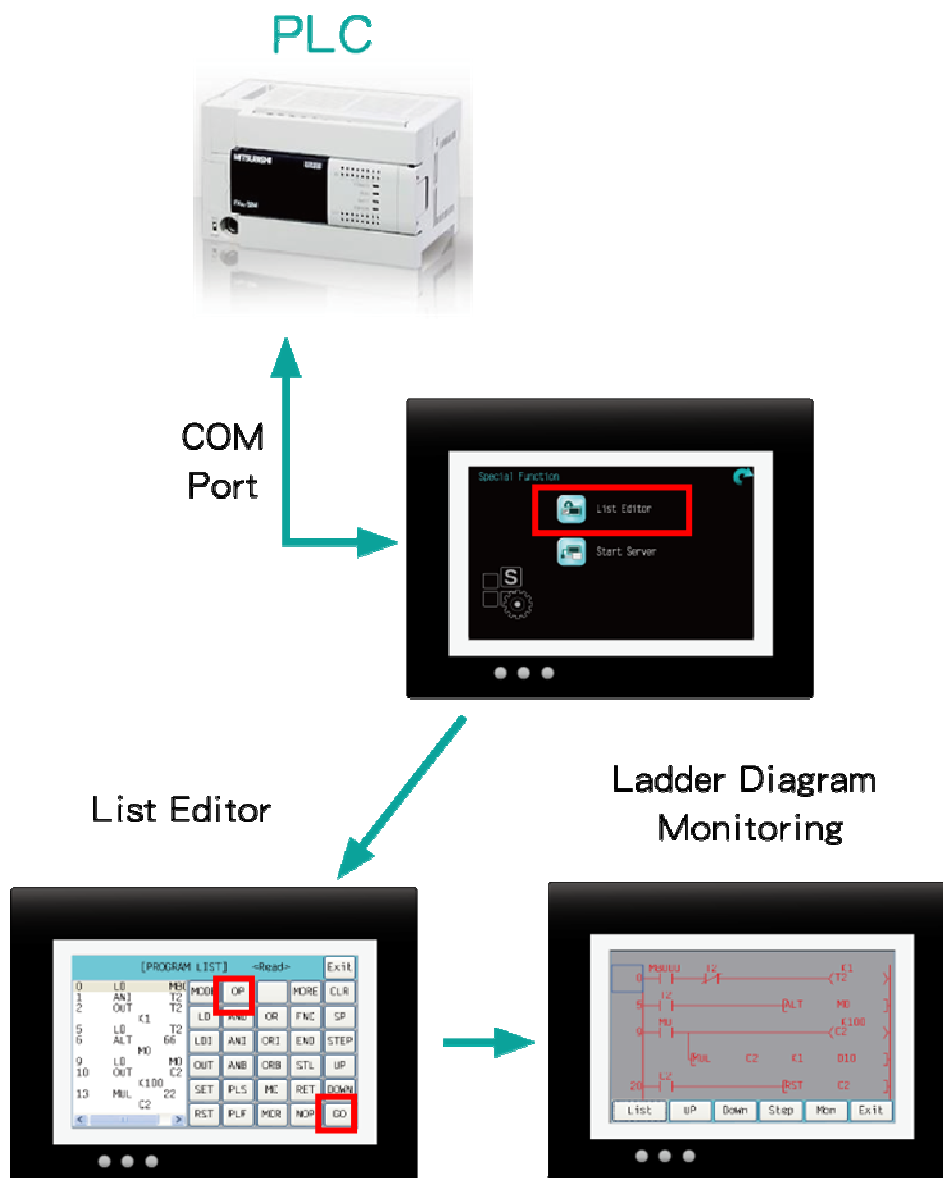

Fig. 3-9-2 PLC Monitoring
- To use instruction list editing and trapezoidal chart monitoring, please connect the PLC device via COM port. The connection is shown in Figure 3-9-2.